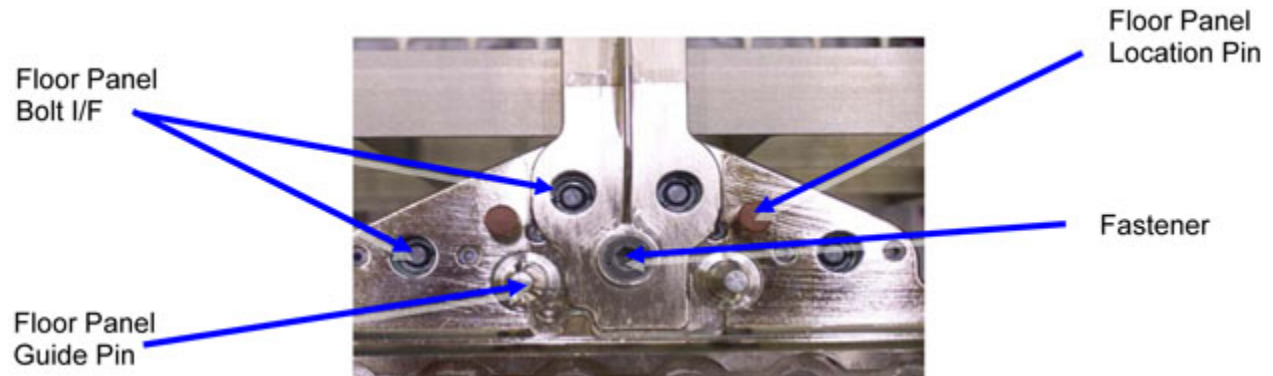

Figure 2. Floor Interface Bar Fastener
- 2.1 Unscrew Floor Interface Bar fasteners (2) in any order (Ratchet Wrench 1/4" Drive; 102mm Extension 1/4" Drive; T30 Torx Head 1/4" Drive). Fasteners are captive. Refer to Figure 2.